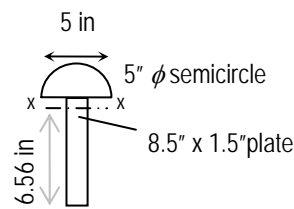

Figure 1c.
- The cross section geometry of the beam is shown in Figure 1c.